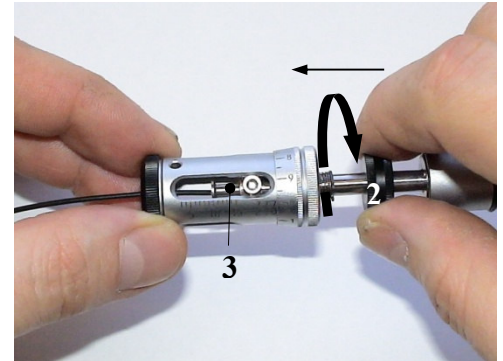

Fig. 9 Stopper setting
- Release the length setting ring gauge **(2)** by twisting it in the direction of the arrow, pull it as far back as it will go and fix into position. **(Fig. 9)**
- Release the length setting ring gauge again (2) by twisting it in the direction of the arrow, and push forwards until the stopper (3) is touching the cable. Then fix the length setting ring gauge (2) into position by twisting it in the opposite direction (Fig. 9).